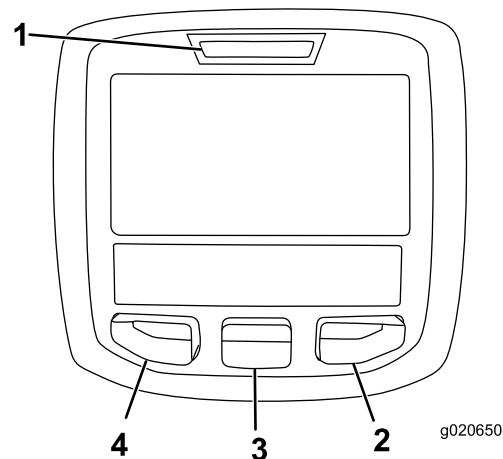

Figure 23
The InfoCenter LCD display shows information about your machine, such as the operating status, various diagnostics, and other information about the machine (Figure 23). There is a splash screen, main information screen, cutting unit (CU) motor information screen, and traction information screen.